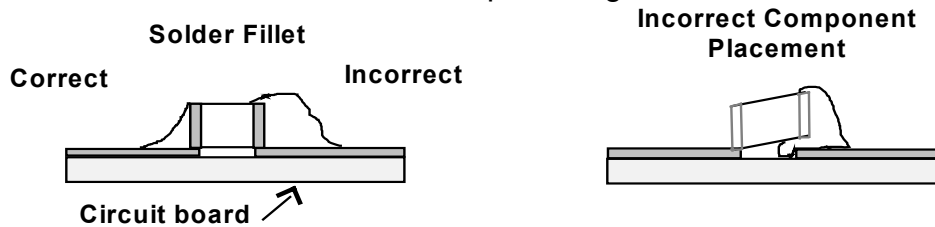

Figure 3. Proper SMD Assembly.
5. Once solidified, remove holding tool and heat and flow solder to the other side of the component only if it is not shared by a second component. If so, solder the component that shares the pad first. You are done! See examples in figure 3.